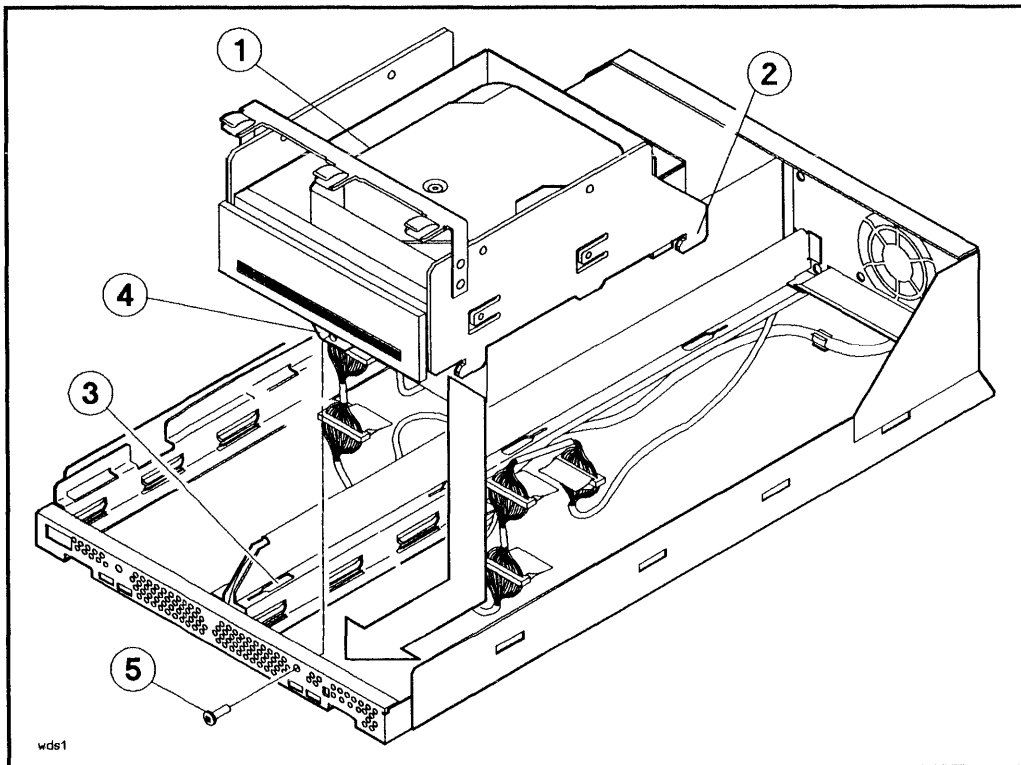
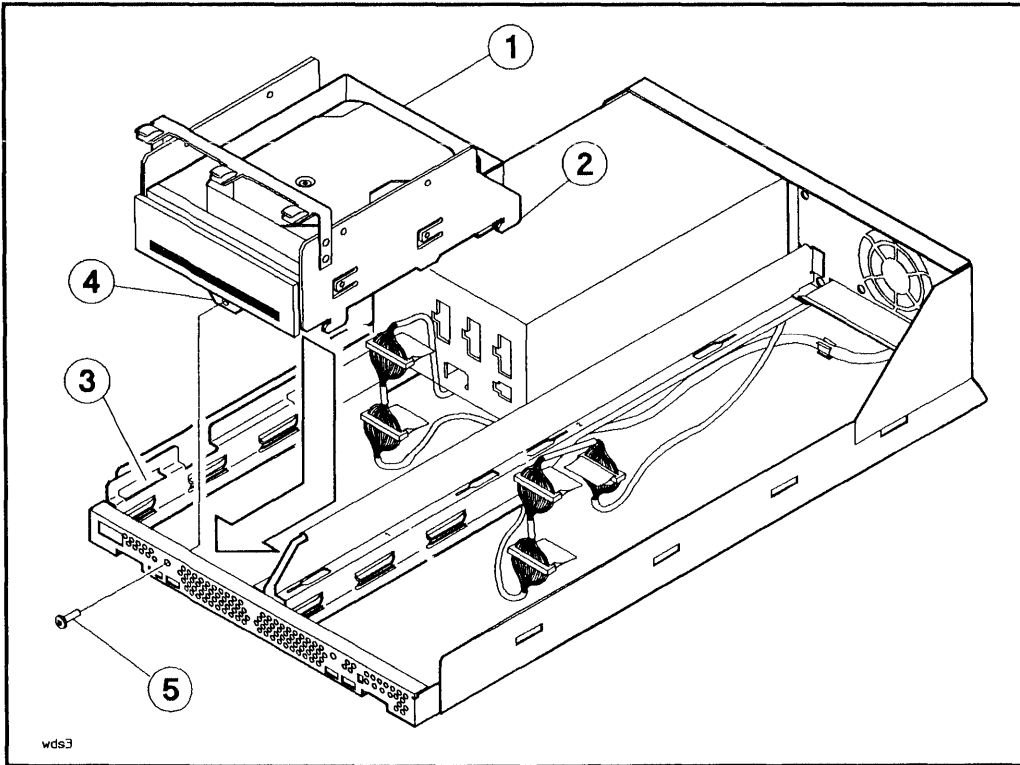

Figure 3-4. Installing the 3.5-inch Hard Disk Drive into Slot 1
Figure 3-6. Installing the 3.5-inch Hard Disk Drive into Slot 3
- If you are installing a drive into slot 1 or slot 3 (the front slots), push down on the drive and slide it on the chassis rails toward the front of the mass storage system chassis until the mounting tabs lock into the mounting slots (see Figure 3-4 or Figure 3-6). Tighten the T25 bracket screw through the hole in the front of the mass storage system chassis and into the drive bracket.